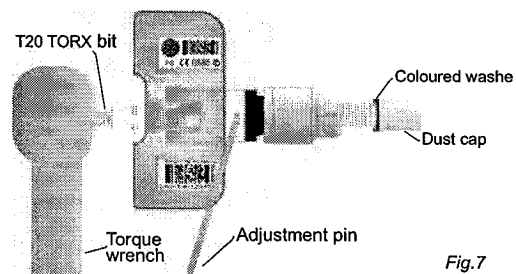

Fig.7
4. Hold the transmitter so that it sits flat in the drop centre well of the wheel. Use the T20 TORX bit and torque wrench to tighten the transmitter attachment screw to 31 lbf.in (+/- .44) or 3.5 NM (+/- .05). Use the valve adjustment pin to ensure the valve stem does not turn while tightening. Thread the corresponding colored washer on the valve stem to match the colored dot on the transmitter. Screw the dust cap on the valve. (See Fig.7)